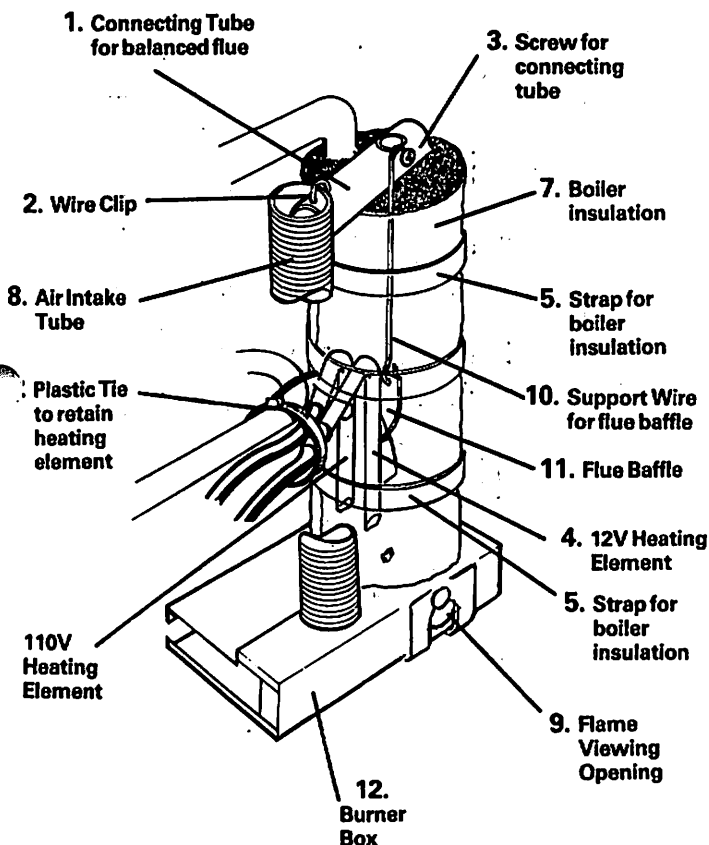

FIG. 17
Remove the faulty heater and fit the new one as follows (see FIG. 17, Page 14).
2. Disconnect the boiler insulation retaining straps (FIG. 17, Page 14).
3. Remove the screw (3, FIG. 17) from the horizontal tube at the top of the flue.
4. Remove the wire clip (2) from the top of the flexible air intake tube, by pulling it upward.
To gain access to the flue baffle, take off the horizontal (metal) connecting tube (1, FIG. 17) at the top of the balanced flue after removing screw (3, FIG. 17). The baffle support wire will then be seen and this can be lifted upward, out of the flue tube, together with the baffle.